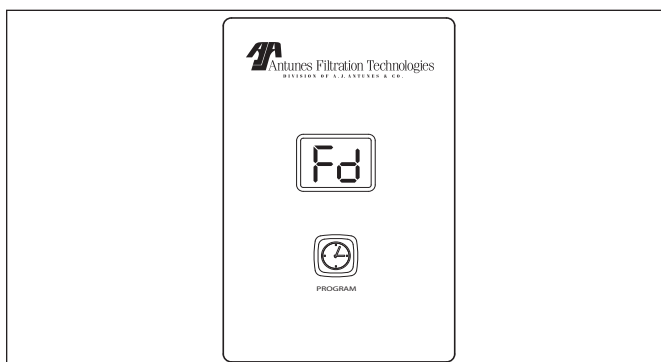

Figure 8. LED Display for Flush Duration Mode
2. When Fd is displayed, press and release the Program button to view current setting (Figure 8).